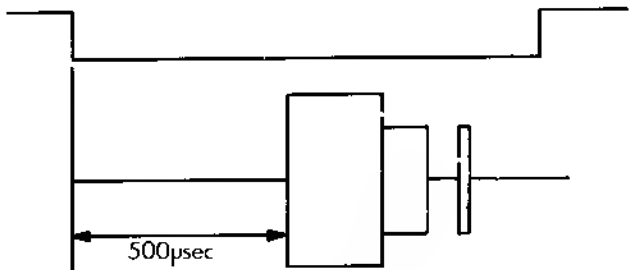

Fig. 5-1 Index burst waveform
When the timing is not within this range, proceed with the following adjustment. (Refer to Fig. 5-1).
- 8) Seek to the track 00 and make sure that the timing is within 500 usec \pm 200 usec. Tighten the screws. (Fig. 5-1).